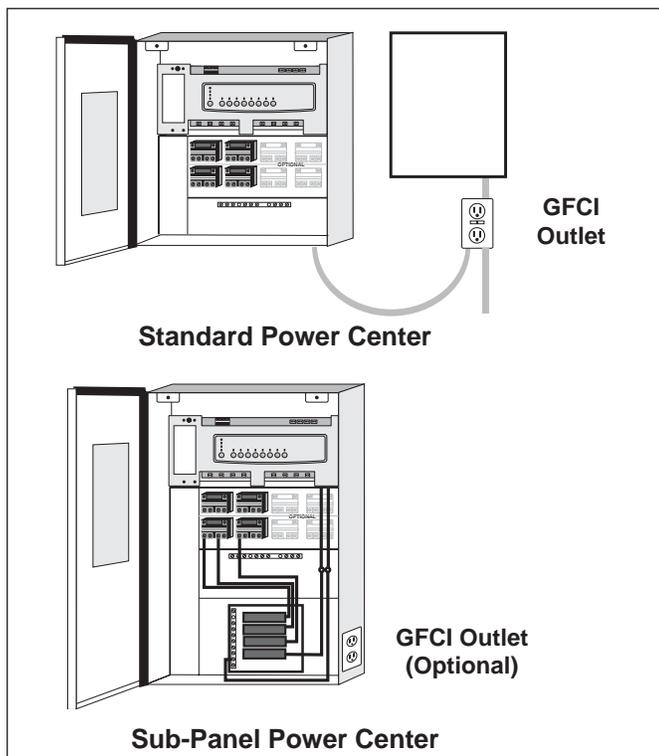

Figure 4. GFCI Installation for Underwater Lighting
1. For a Standard Power Center, install an appropriately rated GFCI receptacle next to the breaker panel. For a Sub-Panel Power Center install an appropriately rated GFCI receptacle in the Power Center (use the knockout provided on the right side of the Sub-Panel Power Center). See Figure 4.